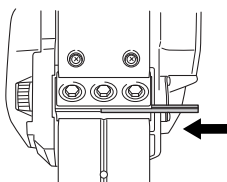

Fig. 17
- (2) As shown in Fig. 17, mount the new carbide blade by sliding it on the set plate (B) so that the blade tip projects by 1 mm from the end of the cutter block.